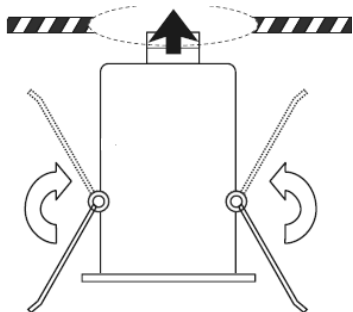

Fig5
- Lift both of the spring clips either side of the fitting and push into the ceiling (see Fig 5)